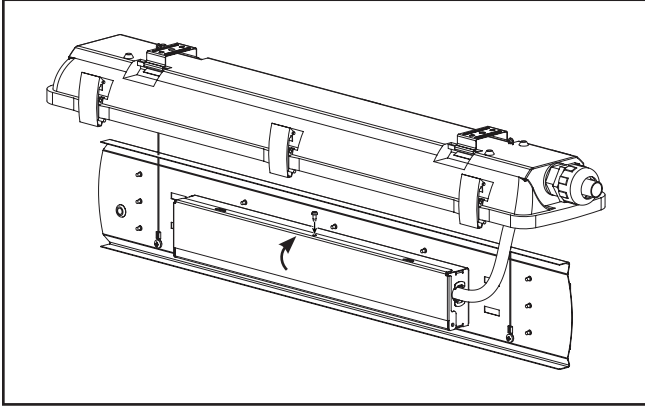

Figure 15.
16. Close driver enclosure door and secure with driver door screw. (Figure 15) Without touching LED boards, lift gear tray back into place, aligning the rectangular holes with the gear tray clips. Snap gear tray back into place.